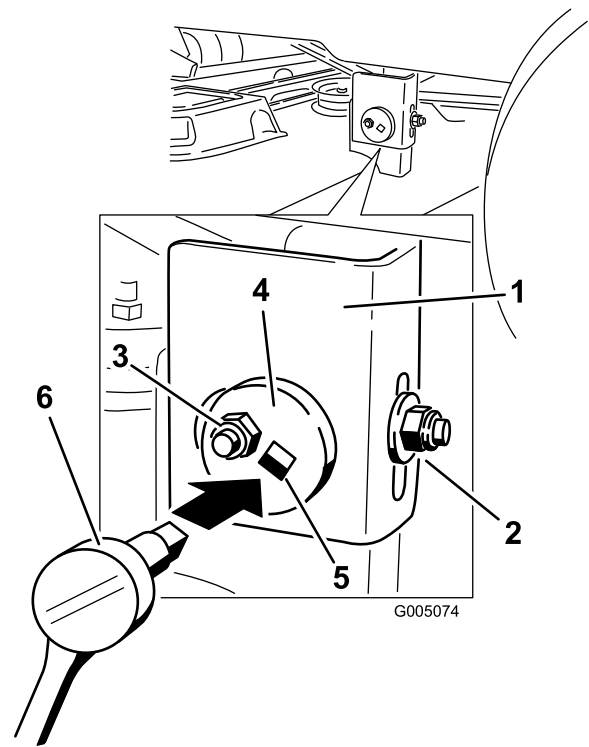

Figure 52
- Move to the left side of the machine. Loosen, but do not remove, the rear locking nut on the hanger bracket (Figure 52).
- Loosen the side locking nut on the hanger bracket just enough to allow the eccentric plate to be adjusted (Figure 52). Use a 3/8 inch drive extension on a socket wrench to manipulate the eccentric plate. Use the wrench to reposition the height of the mower deck and adjust to the desired height.
- Stop the deck at the adjusted position and tighten the side locking nut on the hanger bracket to hold the new position (Figure 52). Tighten the rear locking nut on the hanger bracket.